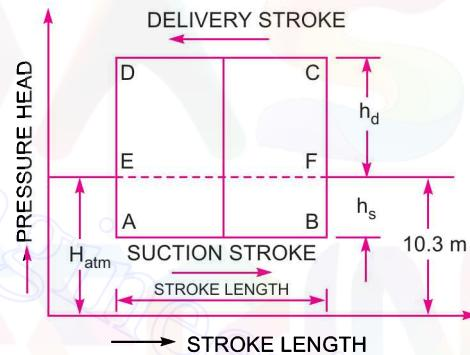

Fig. 20.4 *Ideal indicator diagram.*
**20.8.1 Ideal Indicator Diagram.** The graph between pressure head in the cylinder and stroke length of the piston for one complete revolution of the crank under ideal conditions is known as ideal indicator diagram. Fig. 20.4 shows the ideal indicator diagram, in which line *EF* represents the atmospheric pressure head equal to 10.3 m of water.
But from Fig. 20.4, area of indicator diagram